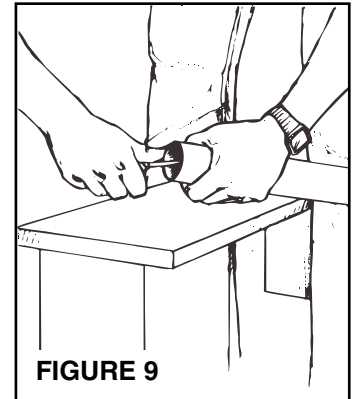

FIGURE 9
4. **Refer to Figure 9.** Remove burrs from both inside and outside of tubing.